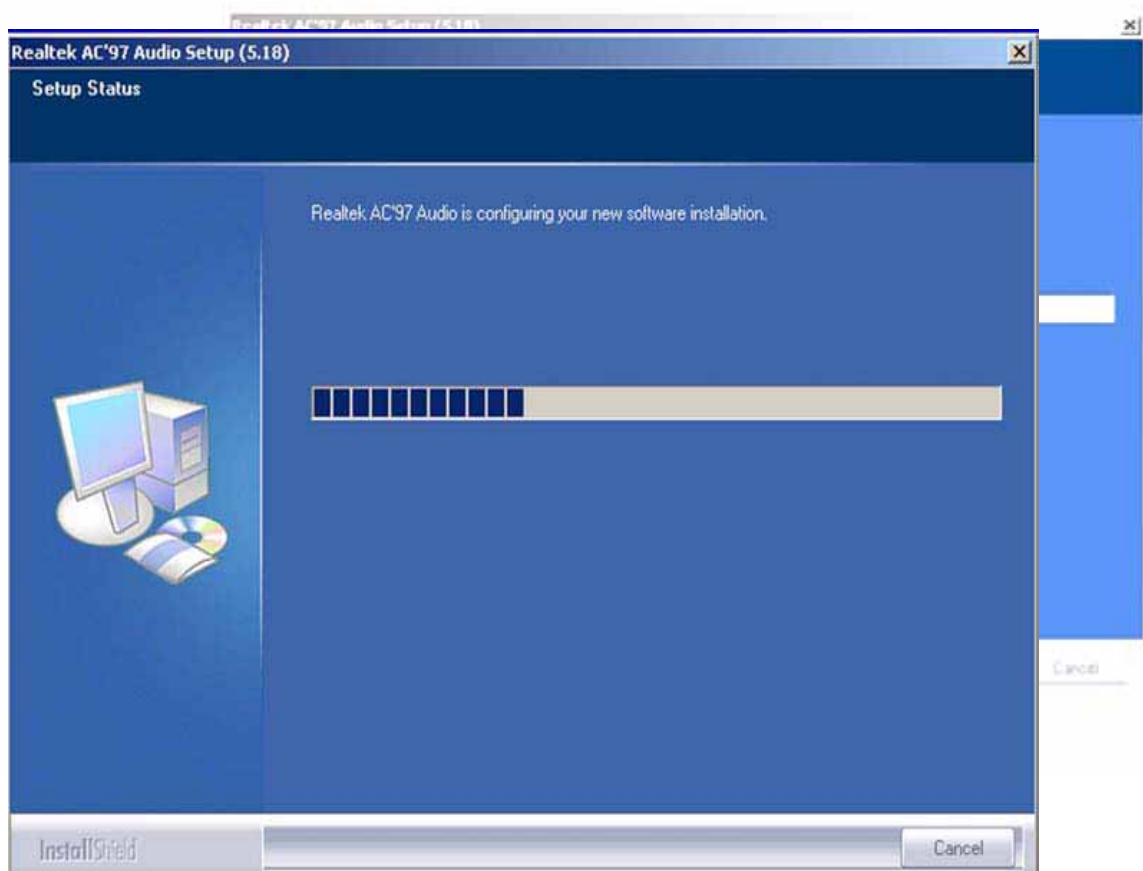

**Figure 6-8: Audio Driver Welcome Screen**
**Step 4:** After install shield is prepared, the welcome screen shown in **Figure 6-8** appears. To continue the installation process, click the “**Next**” button. The install shield starts to configure the new software as shown in **Figure 6-9**.